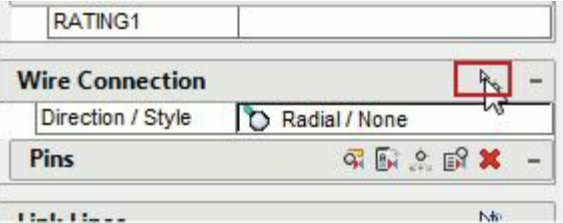

Figure-46. Insert Wire Connection button highlighted
- Click on the **Insert Wire Connection** button from the **Wire Connection** rollout; refer to Figure-46. You are asked to specify a point on the object for wire connection.